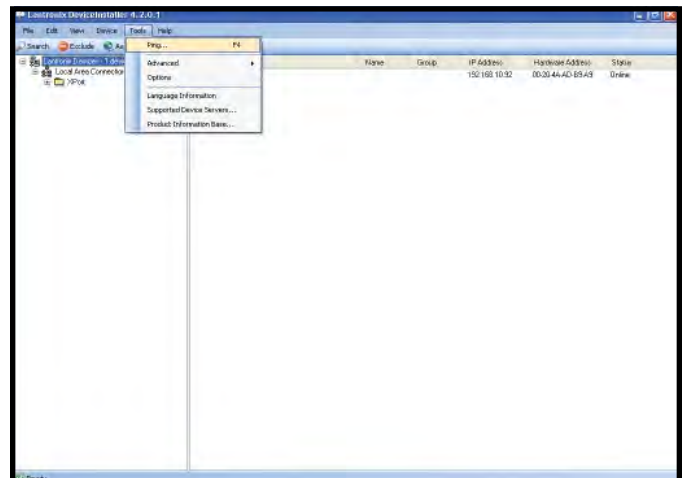

Figure 70. Selecting the Ping command
- I. Verify proper communication to the Ethernet Board by clicking "Tools" then "Ping" located at the top of the window (see Figure 70).